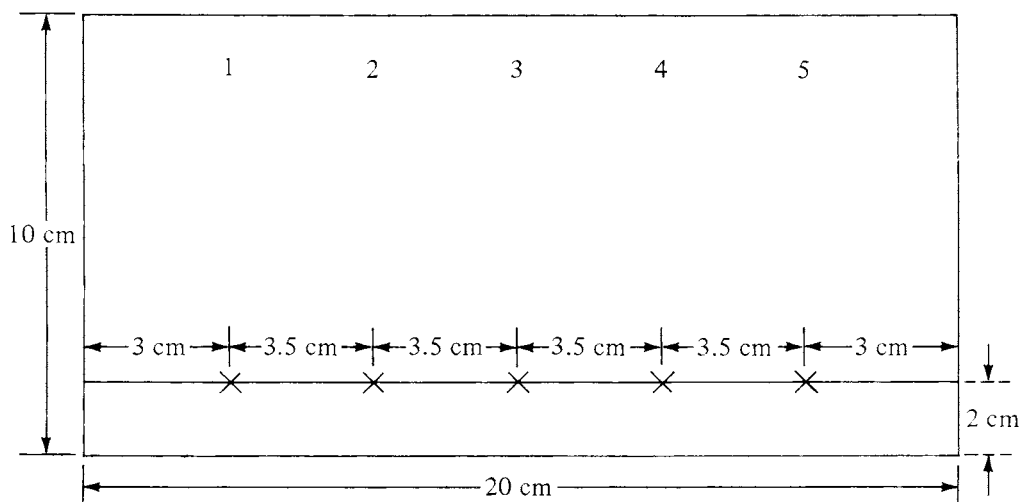

Figure 23.2
2. Plan the **spotting** of the samples as illustrated in Figure 23.2. Five spots will be applied. The first and fifth spots will be β -carotene solutions supplied by your instructor. The second, third, and fourth spots will have your tomato paste extracts in different concentrations. Use a pencil to mark lightly the spots according to Figure 23.2.